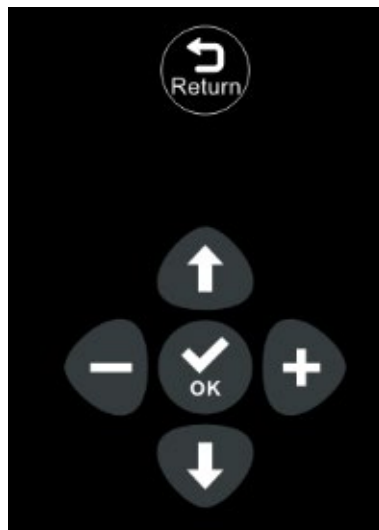

Figure 7-27 Time Setting Sub-menu
b. press  button or touch , enter the time setting sub-menu, the interface is shown in Figure 7-27: